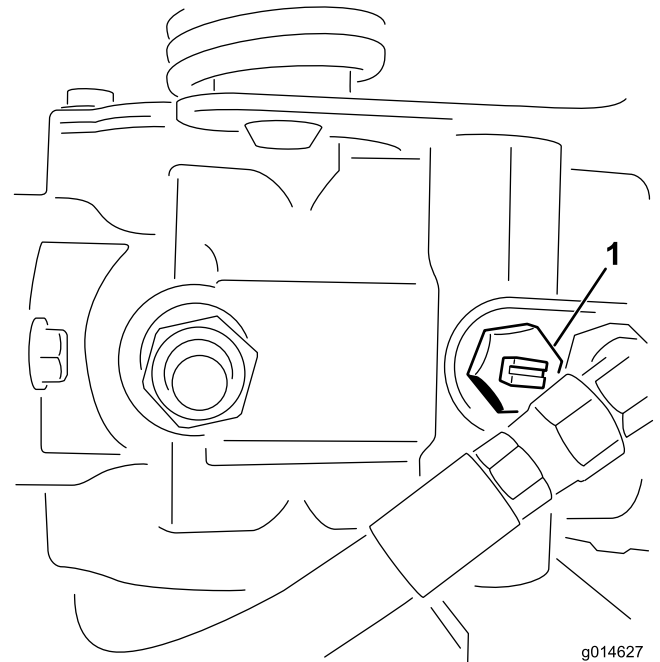

Figure 41
1. Locate the bypass valve on the pump and rotate it so that the slot is vertical (Figure 41).
2. Before starting the engine, close the bypass valve by rotating it so that the slot is horizontal (Figure 41).